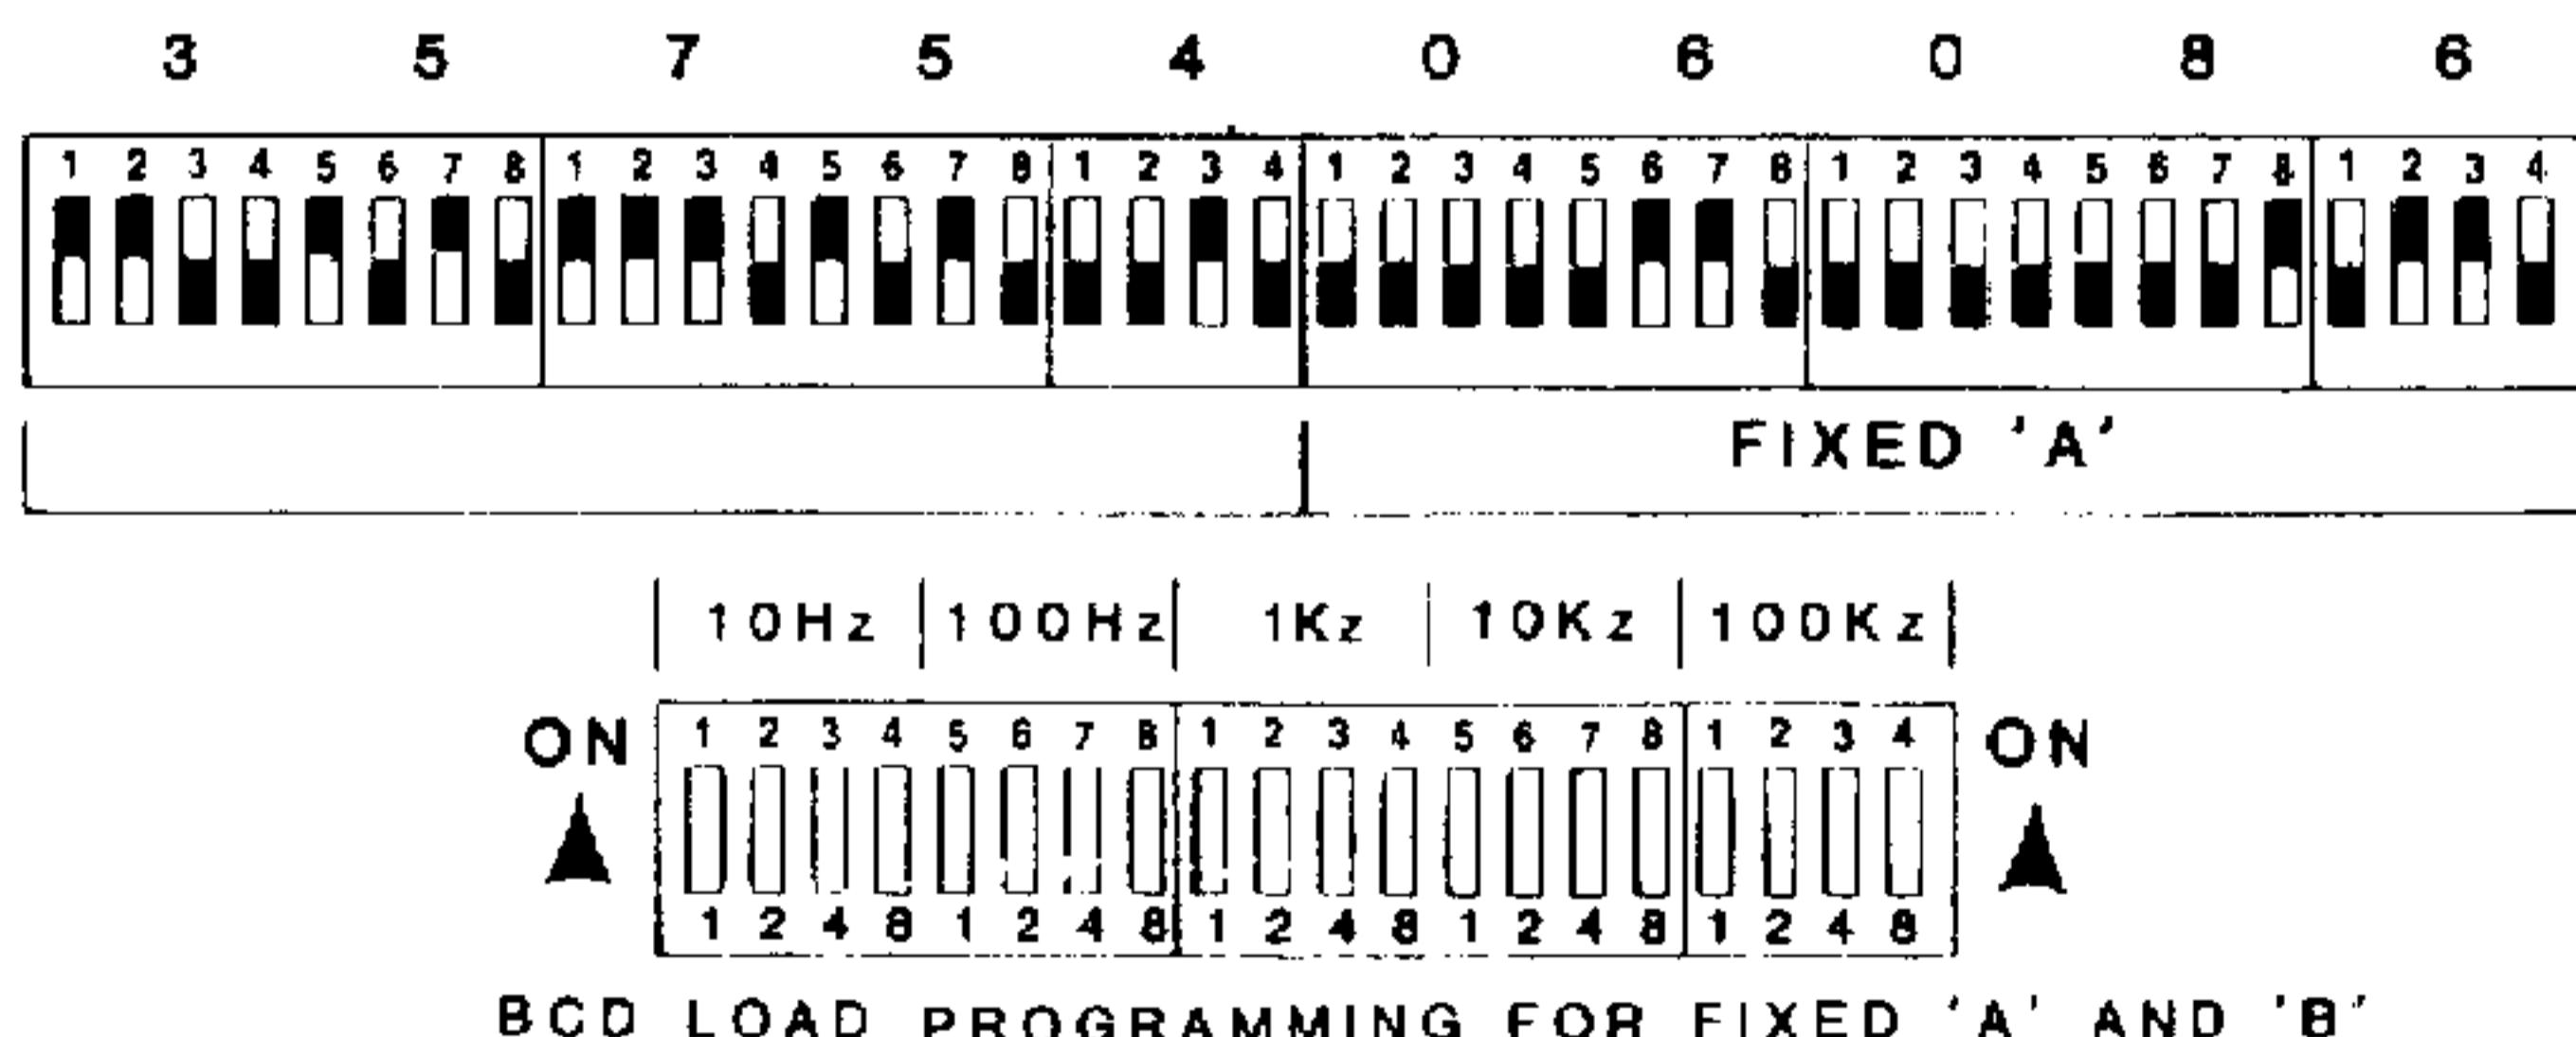

Figure 3-4 Programming For 5-Line
(1) 14345.67 USB	3615.50 CW
(2) 14000.00	3500.00
(5) 14003.20	3496.10
(6) 14003.20 - 14000.00 = -00320	3500.00 - 3496.10 = +00390
(7) 14000.00 - 150.00 = 13850.00	3500.00 - 150.00 = 3350.00
(8) 14345.67 - 13800.00 = 54567	3615.00 - 3350.00 = 26550
(9) 49567 - 00320 = 49247	26550 + 00390 = 26940
(10) 95000 - 49247 = 45753	95000 - 26940 = 68060
(11) see fig. 3-4(A)	see fig. 3-4(B)